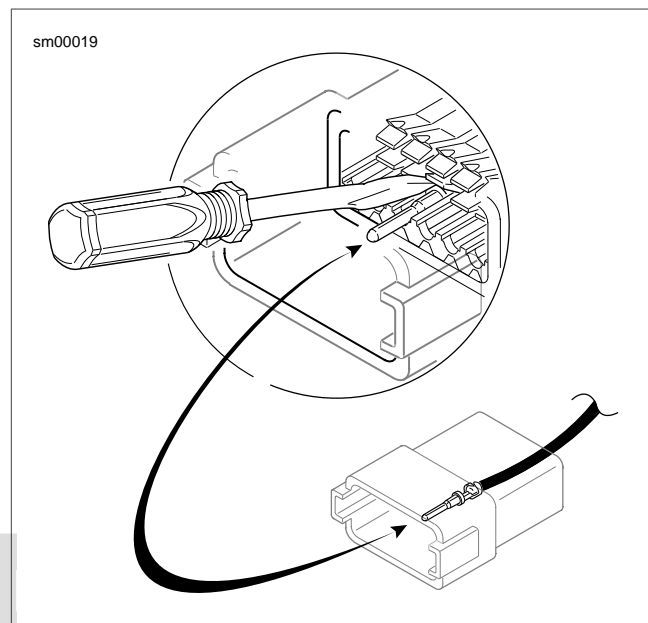

Figure A-15. Deutsch Connector: Depress Terminal Latch and Back Out Pin
- See Figure A-15. Use a pick or small screwdriver to depress terminal latches inside socket housing and back out sockets through holes in rear wire seal.